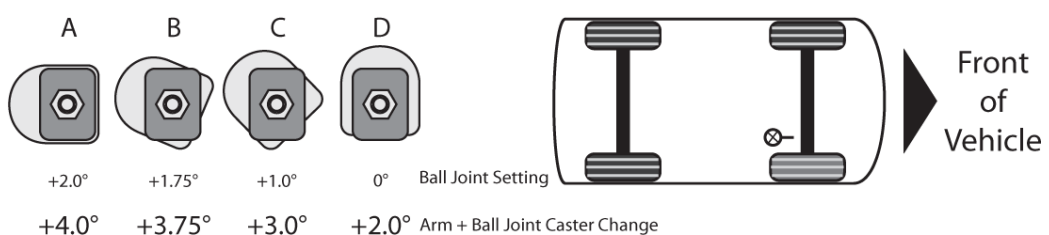

Figure 02 – Caster Settings
8. Install the star plate over the hex on the ball joint per the chart below to achieve the desired caster change relative to the stock arm. (For most vehicles with 2" of lift, it is recommended initially to set the ball-joint in the position "A" (Figure 02) for +4.0° caster change and make necessary adjustments using different positions on each side, if needed, to achieve desired cross-caster setting.) Insert the ball joint up through the bottom of the arm, indexing the star plate in the machined slot, and then install the top washer and nut. Position in full negative camber position of the slot and tighten nut for initial alignment readings;